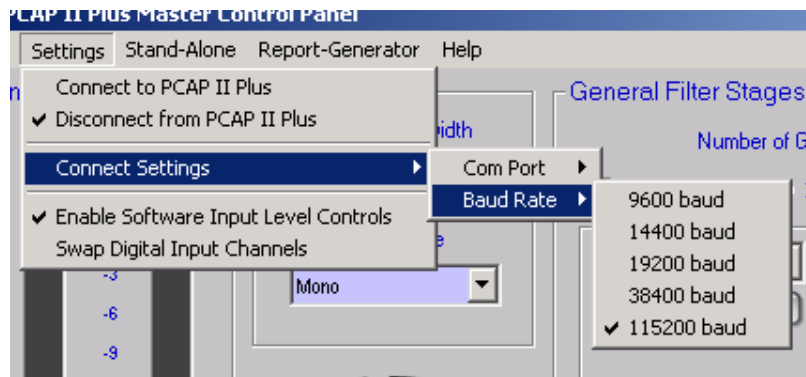

Figure 6-2 Baud Rate Selection Menu
- d. When the pulldown menu appears, click on "Connect Settings", then "Baud Rate". The display will now appear as shown in Figure 6-2.